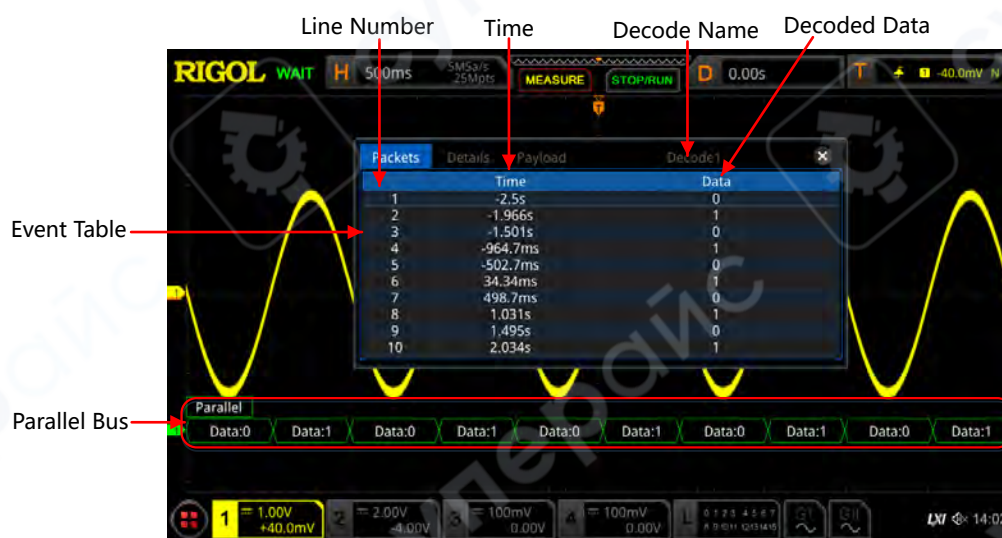

Figure 15.2 Parallel Decoding Event Table
- Open or close the event table: Press **Event Table** continuously to enable or disable the display of the event table. When enabled, the following event table as shown in *Figure 15.2* is displayed. You can also enable the touch screen to tap the icon  at the right-upper corner of the event table to close it.